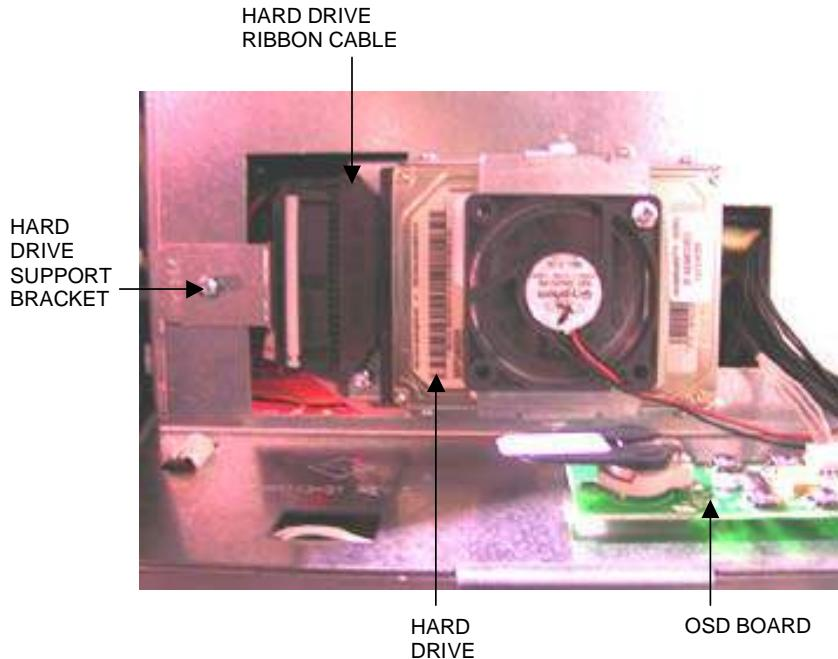

FIGURE 5 - HARD DRIVE ASSEMBLY ON ELECTRONICS BOX
3. Loosen the screw on the hard drive support bracket (if applicable) and disconnect the cables from the hard drive. See Figure 5.
3. Feed the hard drive cables and OSD board connections through the electronics box cover, then put the cover in place over the electronics box and secure it with 2 screws. See Figure 5.
5. Restore the hard drive support bracket (if applicable) and tighten the screw. See Figure 5.